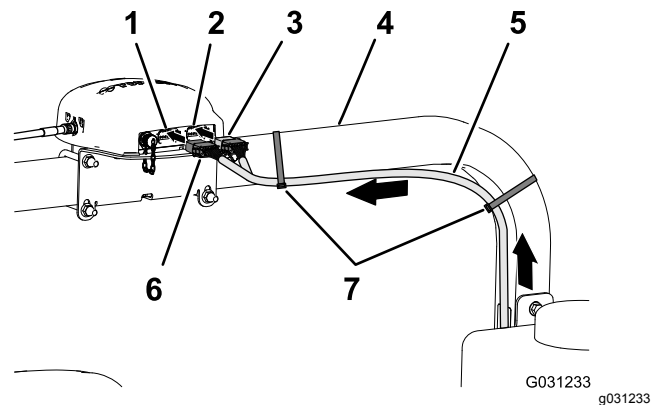

Figure 134
2. Route the 390 cm (153-1/2 inch) branch of the data harness along the right ROPS tube with the 12-socket connector (gray) and 12-socket connector (black) up toward the navigation receiver (Figure 134).
7. Secure the 390 cm (153-1/2 inch) branch of the data harness to the right ROPS tube with 2 cable ties as shown in Figure 134.